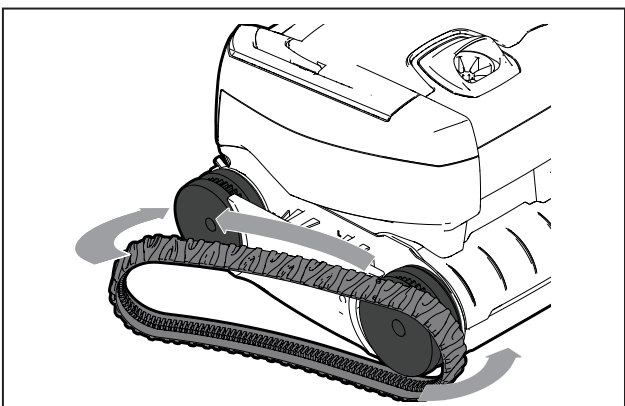

Figure 19. Stretch Track Around Wheels
- To install a new track, place the inside rib of the track into the groove in the first wheel (Figure 19).
- Stretch the track around the second wheel, (see Figure 19). Push and position the rib of